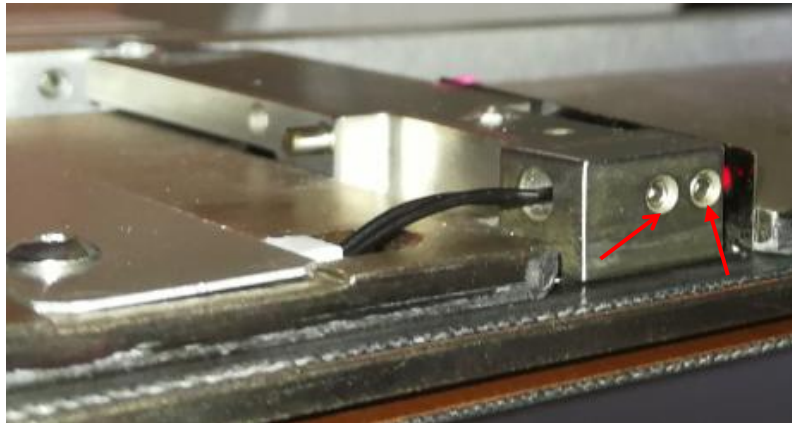

Figure 9 Set Screw Fastening
2. Tighten 2 x Set Screws as shown in Figure 9.